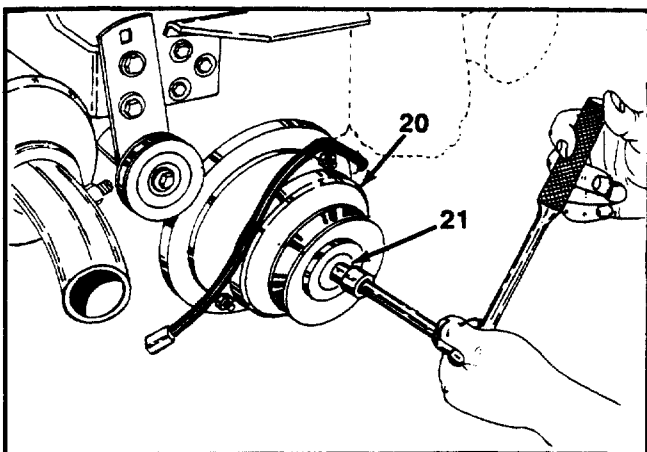

FIGURE 14.
13. Remove the hex bolt, lock washer and flat washer holding the P.T.O. clutch to stub shaft. See figure 14.